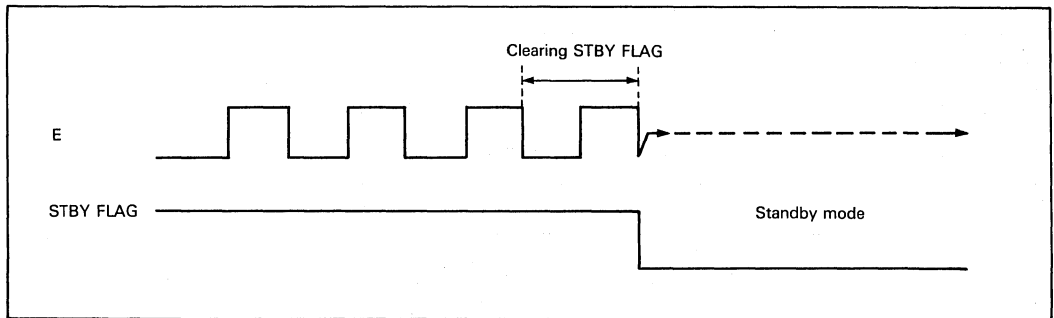

Figure III-22 Timing of Standby Mode by Software
**Answer:** The oscillator stops and the CPU goes to the standby mode at E clock's low level of the first cycle after the STBY FLAG is cleared (figure III-22).